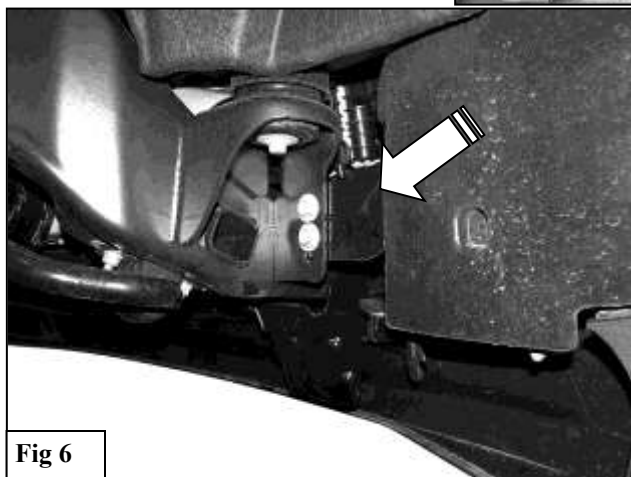
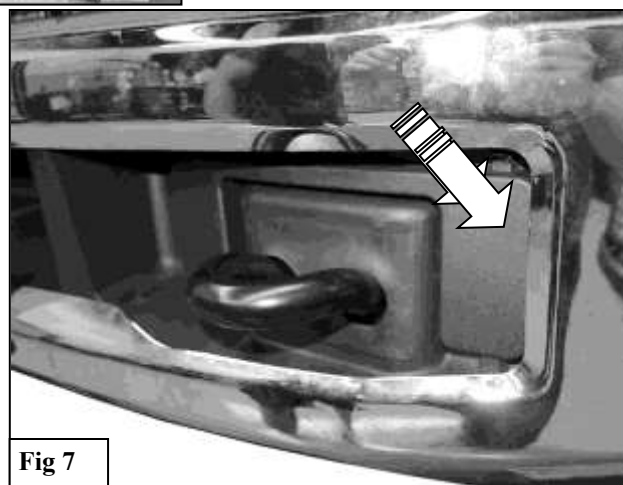
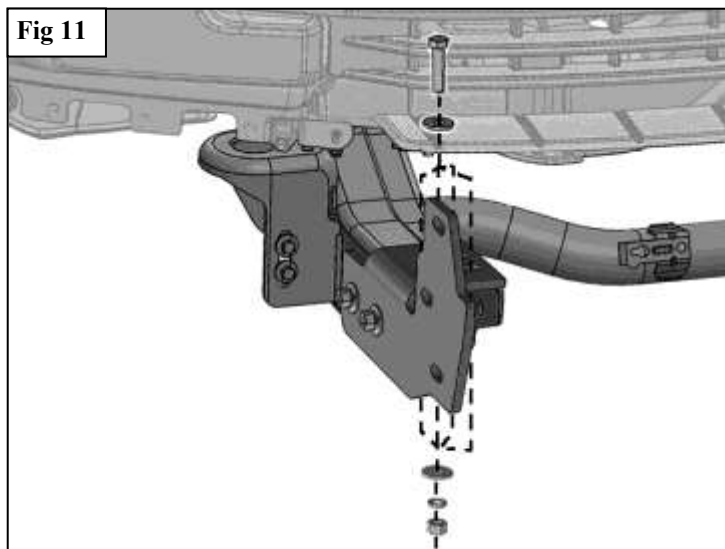

Fig 6
Fig 7
**Fig 9**
3. Next, remove the plastic lower air dam from the bottom of the bumper, (**Figure 5**). Remove the outer bumper supports attaching the outer ends of the bumper to the sides of the frame, (**Figure 6**). Remove the plastic covers from the tow hooks to uncover the bumper bolts, (**Figure 7**).
5. Remove the passenger/right side tow hook from the end of the frame, **(Figure 9)**. Next, remove the (4) factory hex nuts, lower frame extension and double bolt plates from the end of the frame, **(Figures 6 & 9)**. Repeat for Driver Side.